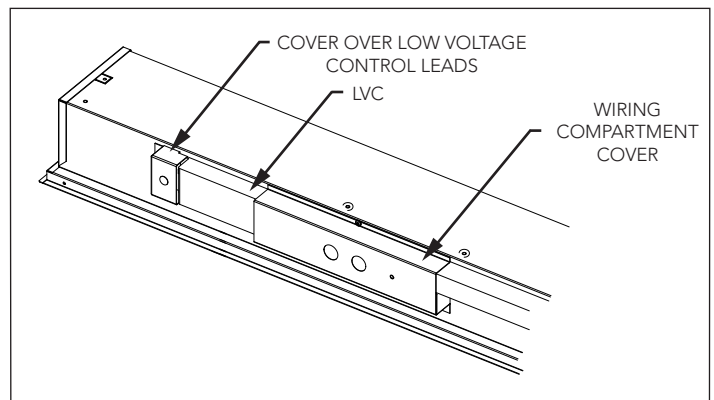

Figure 7
2. The other end of the LVC has the low voltage leads that must be connected to the control switch(s) supplied by others. (See Figure 7) This end of the LVC has a small metal cover. Loosen the screw and remove the cover.